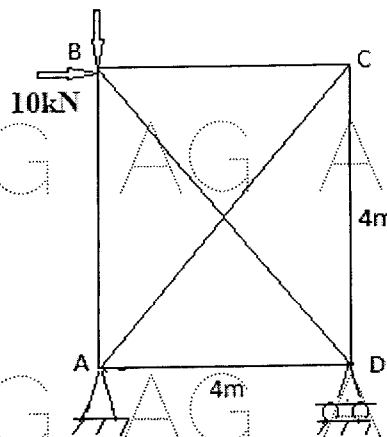

Figure 8
10. Analyse the truss shown in Figure 8. [10]